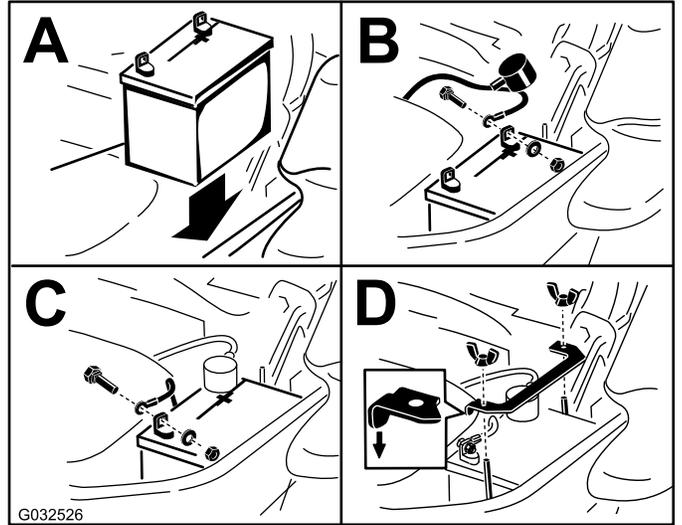

**Figure 54**
3. When the battery is fully charged, unplug the charger from the electrical outlet, then disconnect the charger leads from the battery posts (Figure 54).